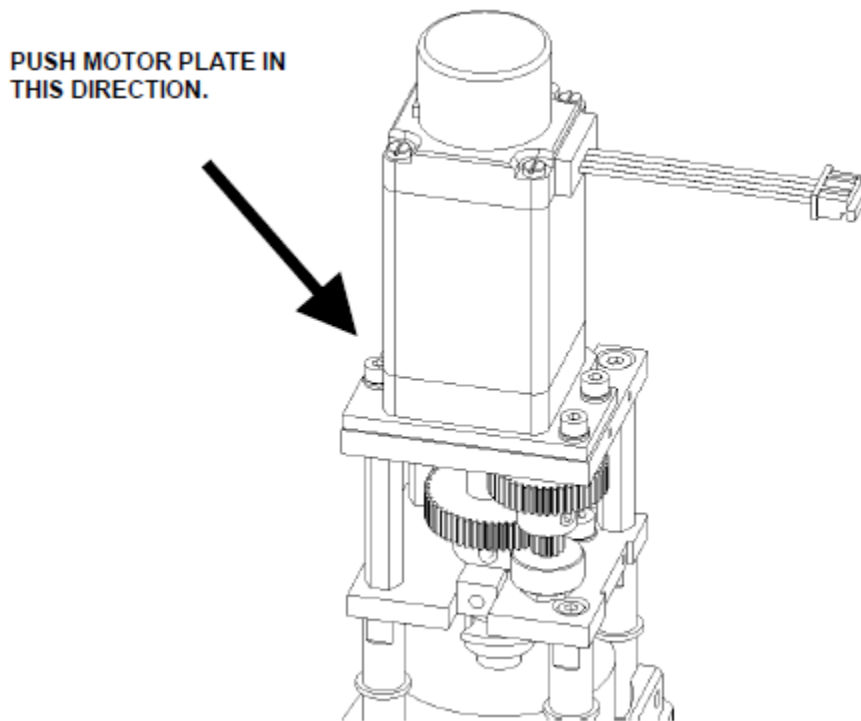

Figure R-7: Connecting Motor to Transmission Gear Assembly
1. Push the Motor Plate in the direction shown to mesh the gear on the end of the Motor Shaft with the large gear of the Transmission Gear assembly (Figure R-7). Hold the Motor Plate in this position and secure it in place.